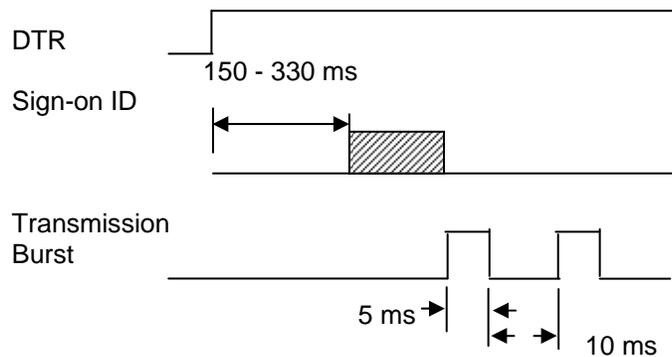

Figure 3-1. Timing For ID Sign-on and Transmission Bursts (Old version).
Timing for the ID Sign-on and transmission bursts (5 ms with 10 ms between bursts) are shown in Figure 3-1.
*The “Transmission Burst” timing shown in Figure 3-1 only applies to the **old** version of the Reader. The **new** version does not apply the 10 ms gap between transmission bursts but rather transmits the full message without any delays. The Sign-on ID delay is in the range between 150 to 330 milliseconds.*